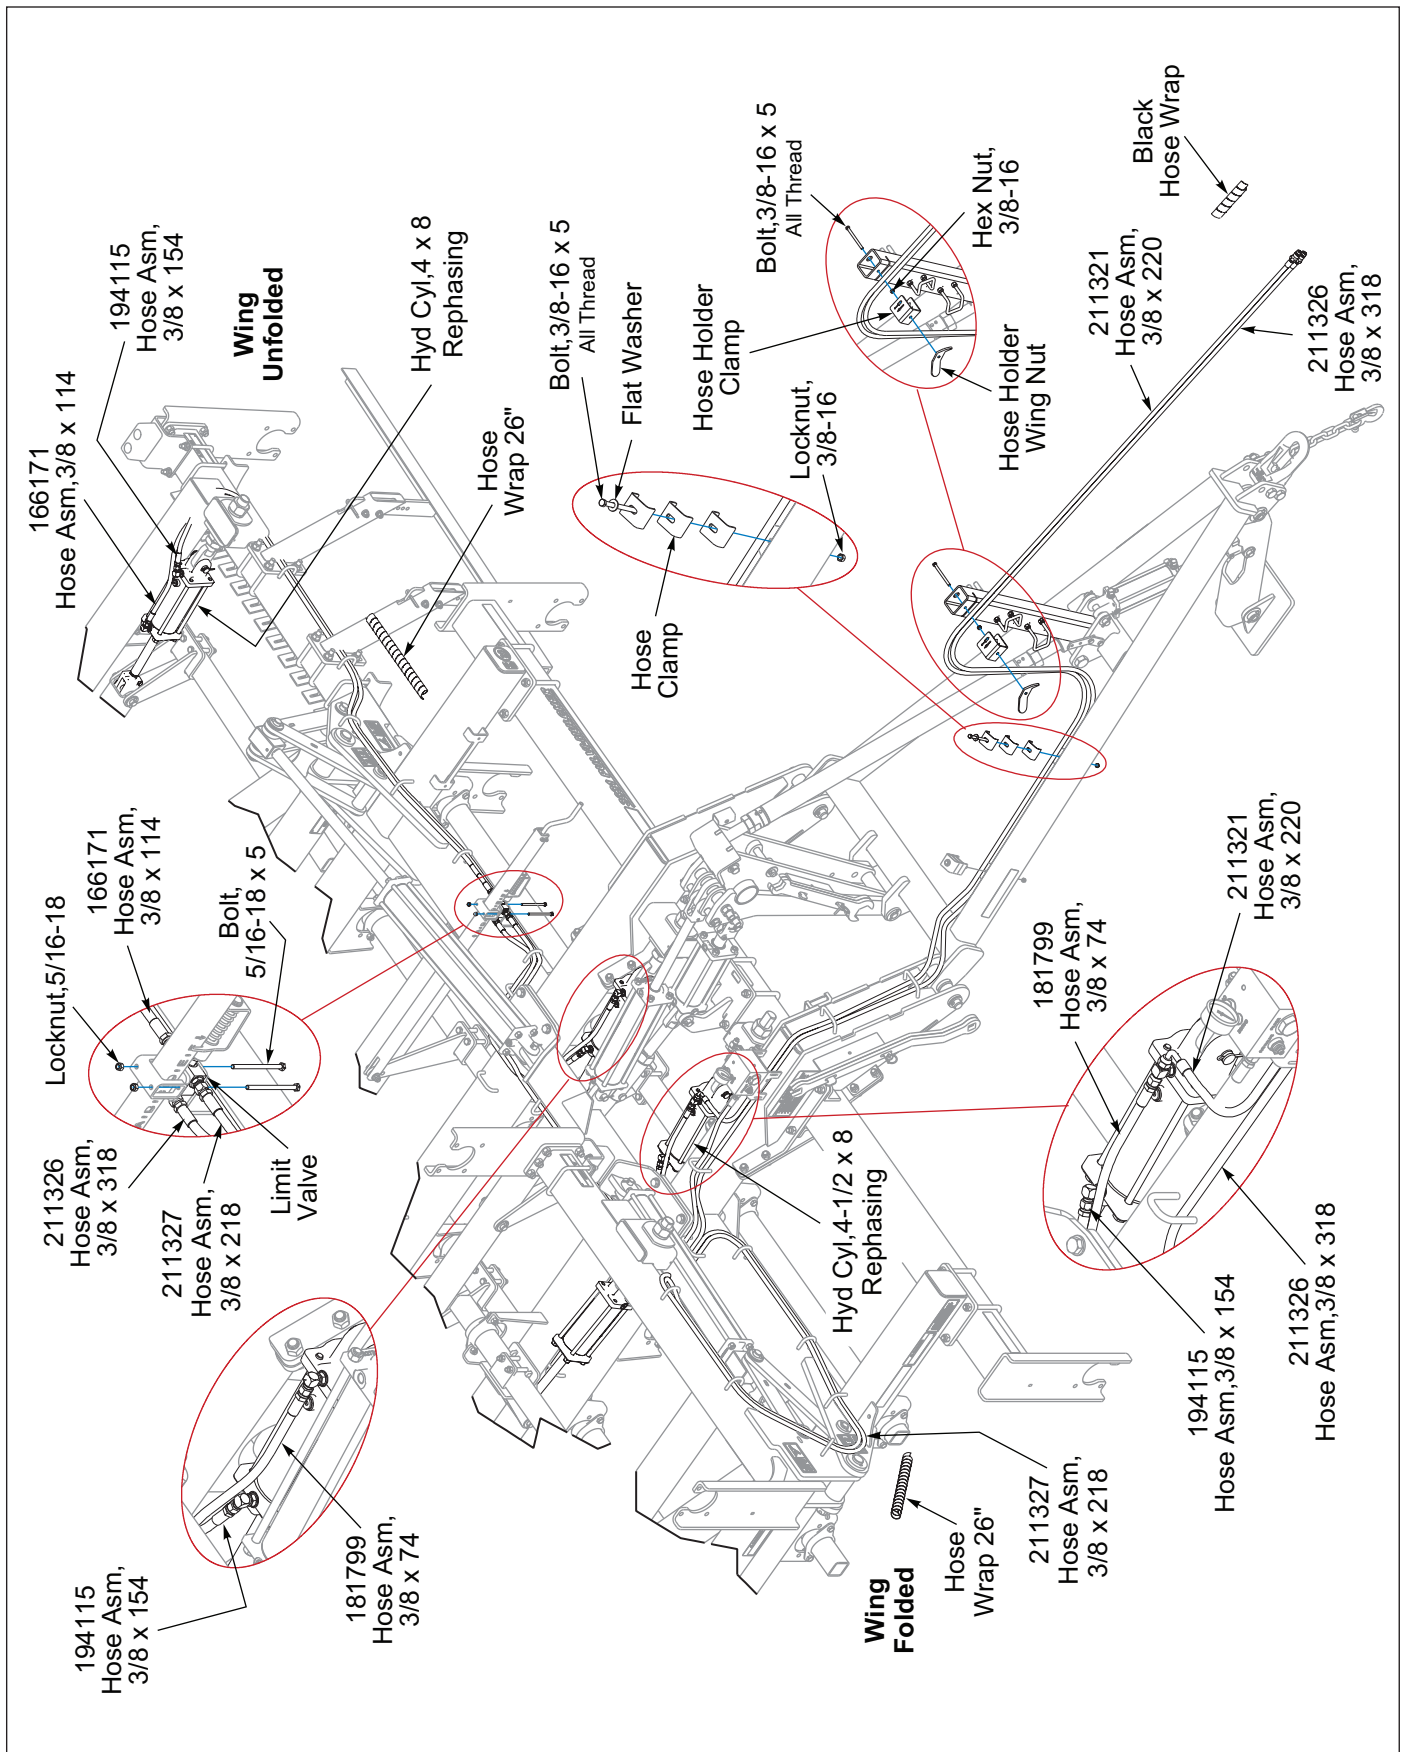

Figure 2-17: Hydraulic Tooth Control Layout
2. Install Limit Valve and Depth Stop Guide to frame bracket with 5/16-18 x 5 Bolts and Locknuts. **See Figures 2-17 and 2-25.**